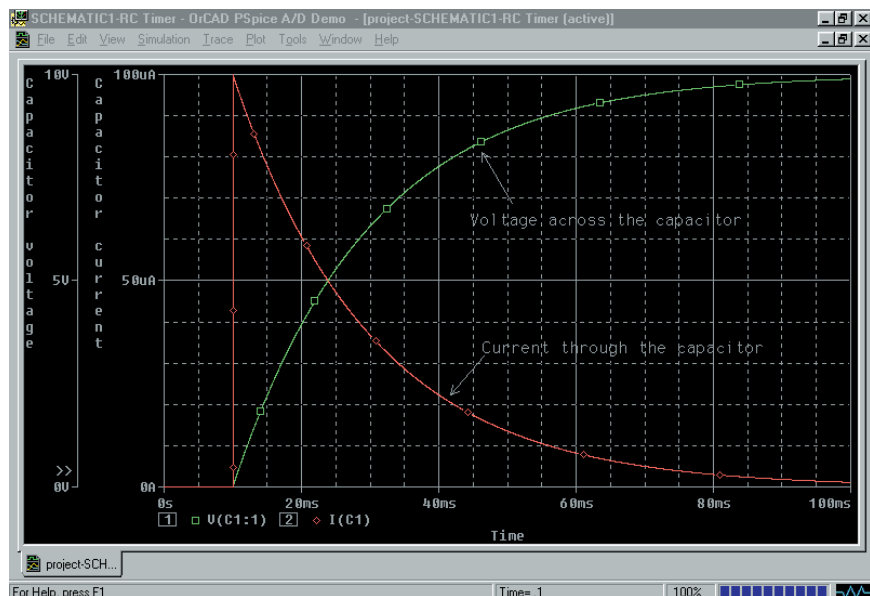

FIGURE A-7 Probe Display—Two Traces
7. Finally, the current axis is labeled by first selecting the appropriate axis with the mouse. Notice that as you select an axis, **>>** appears adjacent to the axis. Select **P**lot, **A**xis **S**ettings. . . and click on the **Y** Axis tab. Type **Capacitor current** in the Axis Title box and click on **O**K. The display will appear as shown in Figure A-7.